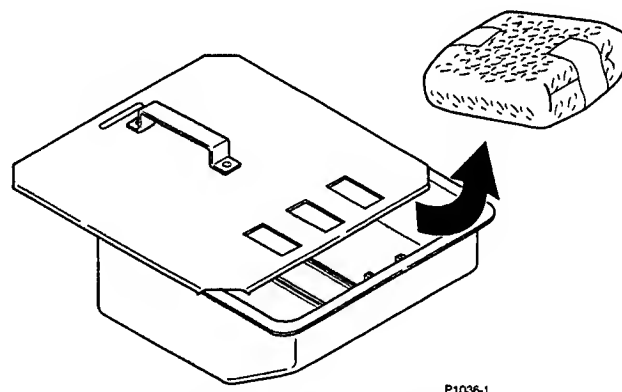

FIGURE 3: PARTS IN CASHBOX
3) Keys are attached to the ball shooter. Open coin door and remove cash box. Remove parts and re-install cash box (see Figure 3).